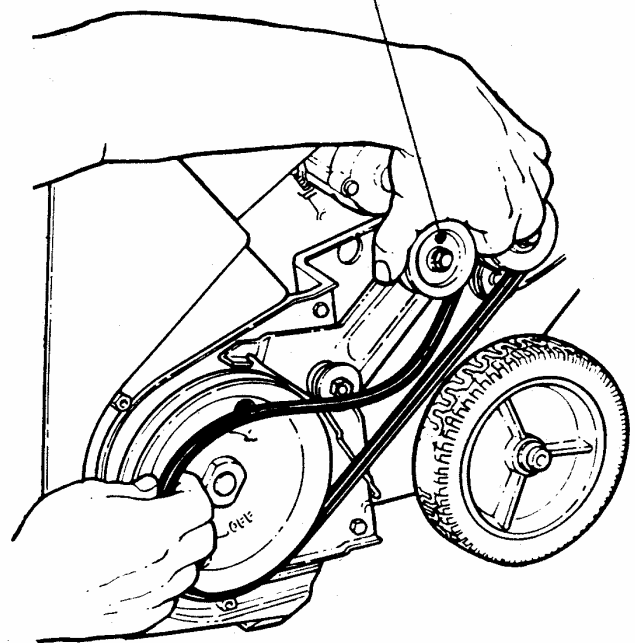

FIGURE 4.5
4. Push the spring tensioned idler pulley down and install new belt. See Figure 4.5.